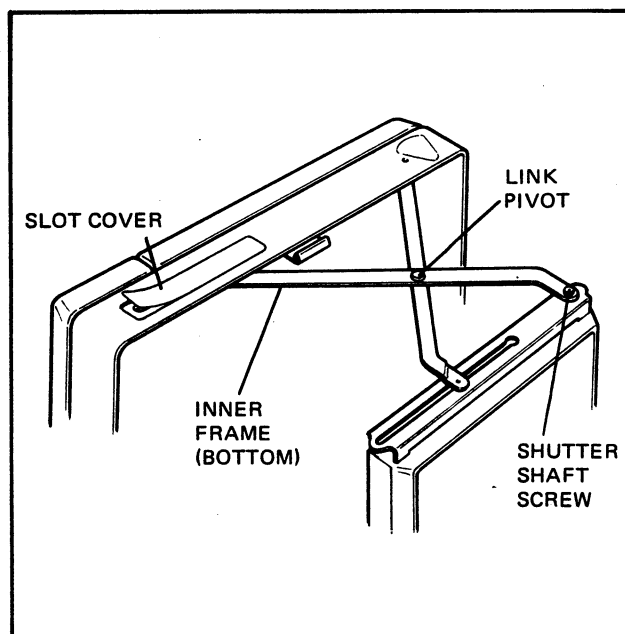

FIG. 5.22 REMOVING THE BOTTOM INNER FRAME
2. Remove the shutter shaft screw and two washers (if present) and move the inner frame out of the way. (See Figure 5-22.) **DO NOT REMOVE THE SHUTTER SHAFT.** (Replace the screw loosely so that the shaft cannot be dislodged.)